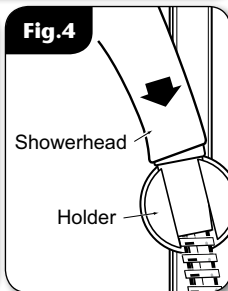

Fig. 4
- Place the showerhead into the holder and check that it fits correctly **(fig.4)**.